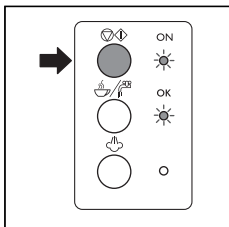
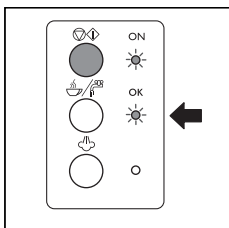
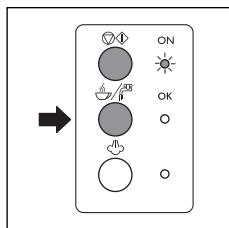

fig. 3
fig. 5
fig. 6
1. Press the ON/OFF button (fig. 3).
3. Position a cup under the filter holder. Use the same cup that the coffee will be served in, so that it may be preheated. Wait until the "OK" light comes on (fig. 5), then immediately press the coffee button (fig. 6). Allow the water to run until the OK indicator light goes out, then stop the water by pressing the coffee button again (fig. 6).
6. Make sure the OK indicator light (fig. 5) is on (if it is off, wait until it comes on), then press the coffee button (fig. 6). Once the required quantity of coffee has been obtained, interrupt delivery by pressing the same button again (fig. 6).
9. To turn the coffee machine off, press the ON/OFF button (fig. 3).
1. Turn the appliance on by pressing the ON/OFF button (fig. 3). Wait until the OK indicator light comes on (fig. 5).
3. Press the coffee button (fig. 6) and at the same time open the steam knob. Hot water is delivered from the cappuccino maker.